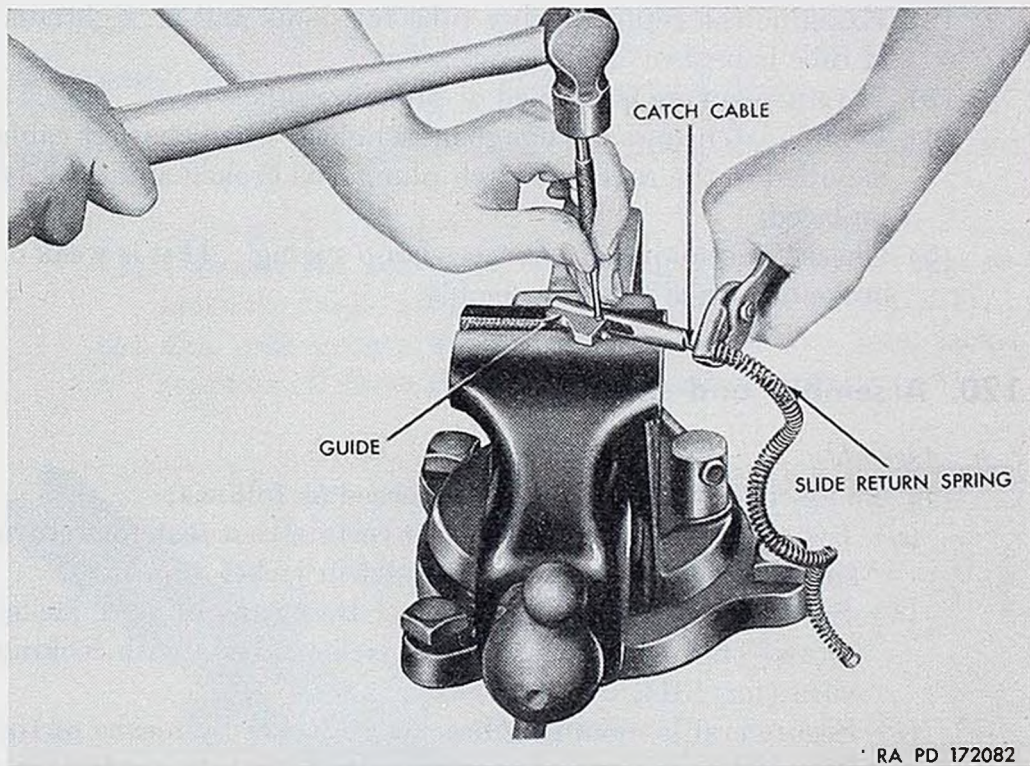

Figure 132. Assembling the slide return spring group—20-mm manual charger M6.
- (*b*) Compress slide return spring and hold it compressed by gripping the cable with pliers, as shown in figure 132.
- (*c*) Pass small connector fitting of catch cable into shaft and out through the slot in the guide (fig. 132).
- (*d*) Position the catch pulley in the slot of the guide so that the small connector fitting and catch cable pass around catch pulley and drive in pulley pin, as shown in figure 132. Release grip on catch cable.